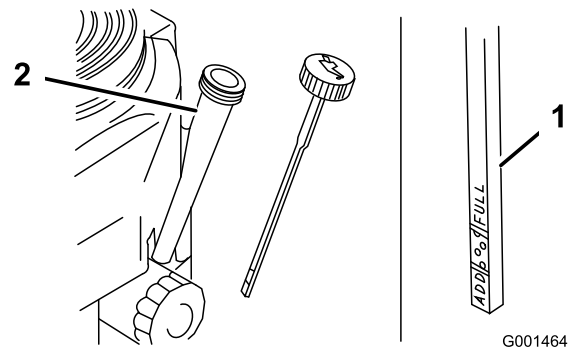

Figure 28
- Clean around the oil dipstick (Figure 28) so that dirt cannot fall into the filler hole and damage the engine.
- Unscrew the oil dipstick and wipe the end clean (Figure 28).
- Slide the oil dipstick fully into the filler tube, but do not thread onto tube (Figure 28).
9. Slowly pour approximately 80% of the specified oil into the filler tube (Figure 28).